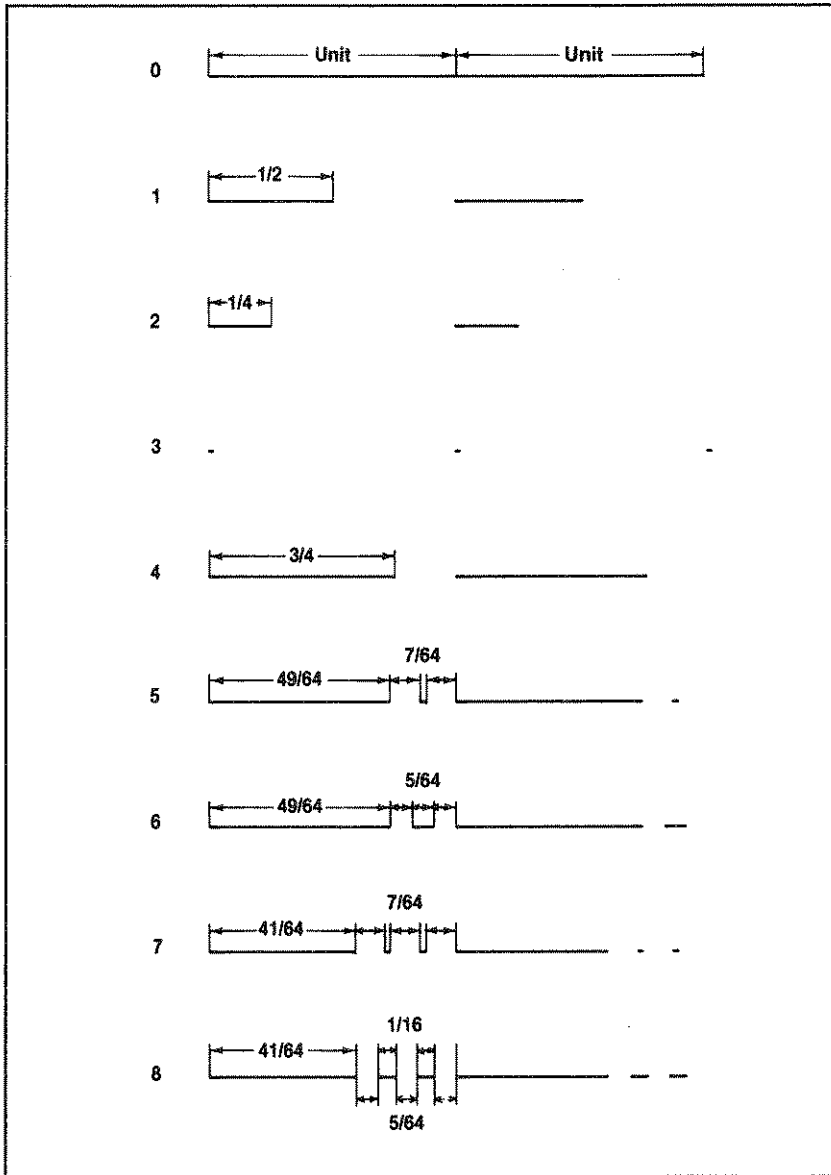

Figure 12-17. Pitch of the types of lines
- draw absolute (D)
- draw relative (I)
The pitch of the various types of line can be set with the line pitch (B) command. The pitch of each line type is shown in Figure 12-17.